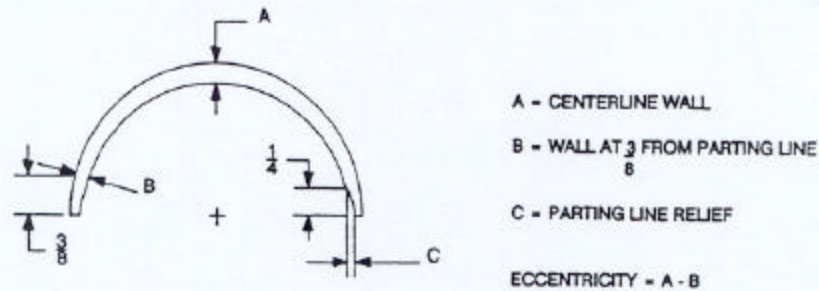

FIGURE 3
Half shell bearings seldom ever have a uniform wall thickness. The thickest dimension is half way around or at 90 degrees from the parting lines. This is referred to as the “centerline wall”. There is a gradual drop-off in wall thickness toward the parting lines. Figure 3 illustrates this variation on an exaggerated scale. The difference between centerline wall (A) and wall thickness  $\frac{3}{8}$ ” above the parting line (B) is called “Eccentricity”. This change in wall thickness produces an increase in clearance out of the highly loaded area which promotes greater oil flow to carry